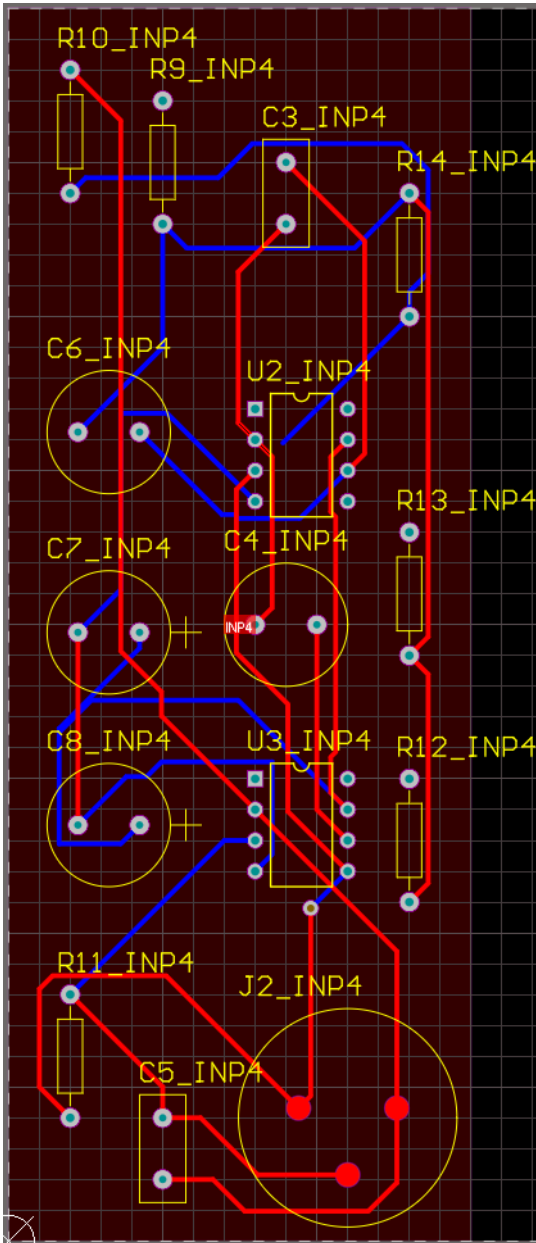

Figure 8. Room after auto routing
15. With the crosshair on your cursor, click on room **INP4** that you have resized and placed. In a few seconds the room will be routed as shown in Figure 8.